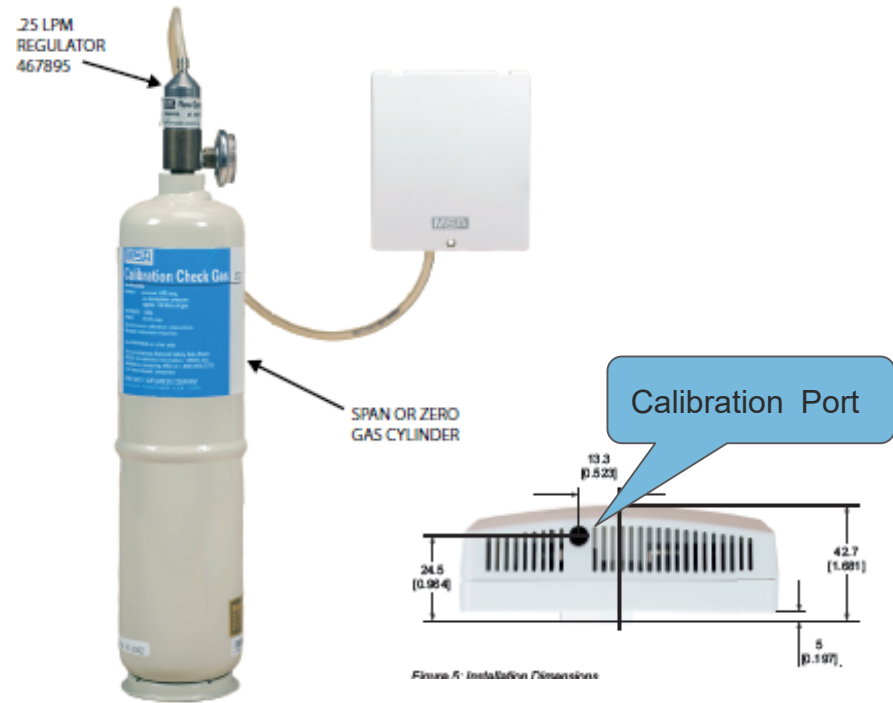

Figure 6: Applying Calibration Gas
3. With the tubing connected to the regulator and cylinder, place tubing in the opening at the bottom of this unit (see Figure 6).